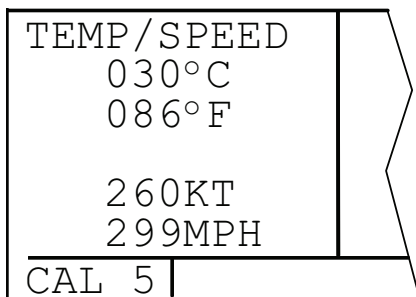

Figure 3D-100. CAL 5 Page
e. **The Calculator 5 Page.** The CAL 5 page is used to perform two types of conversions: between °C and °F and between knots and miles per hour. Refer to Figure 3D-100.